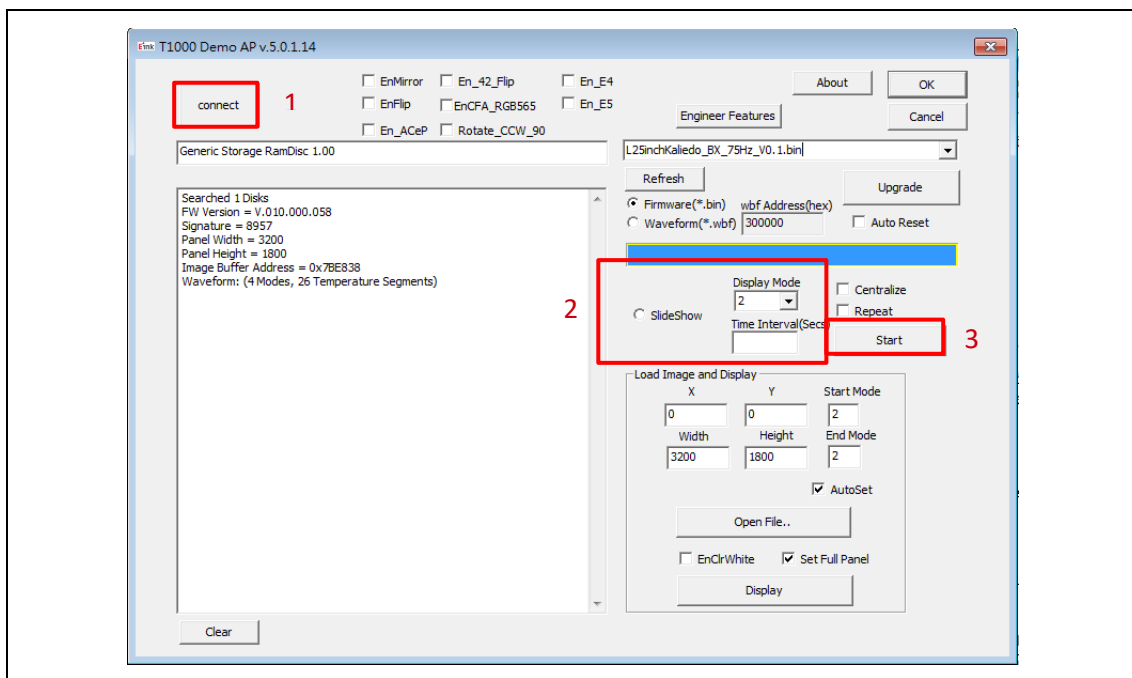

Figure 3.6
(4) How to slideshow
- Execute T1000 Demo AP (refer to Figure 3.6)